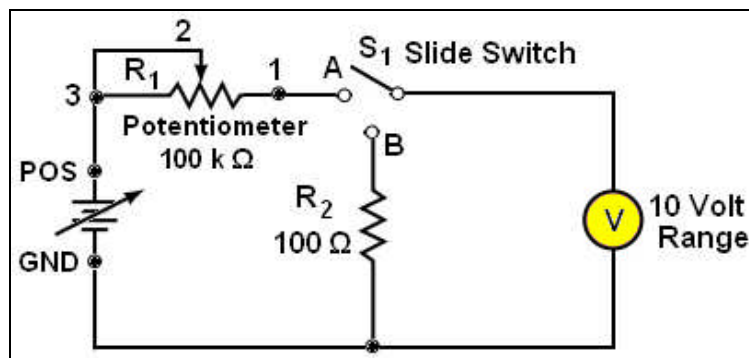

Fig. 1-1 Step 1&2
1. Using the Ohmmeter adjust the 100 K Ohm potentiometer to read exactly 40K Ohms between points 1 & 2, (Fig. 1-1).
2. Without disturbing the setting of the potentiometer, construct the circuit (Fig. 1-1).